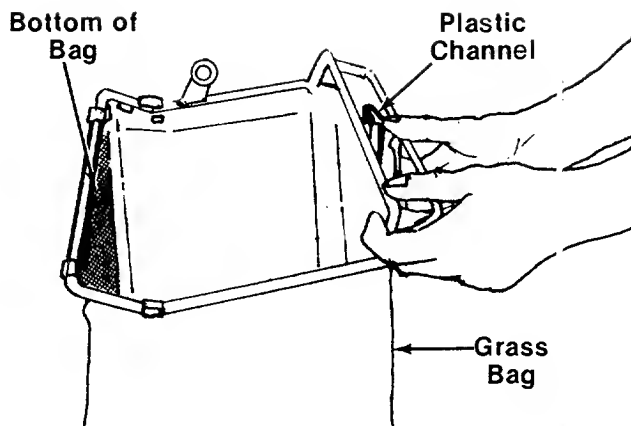

FIGURE 13.
3. Secure bag to frame by slipping plastic channel on bag over frame. See figure 13.